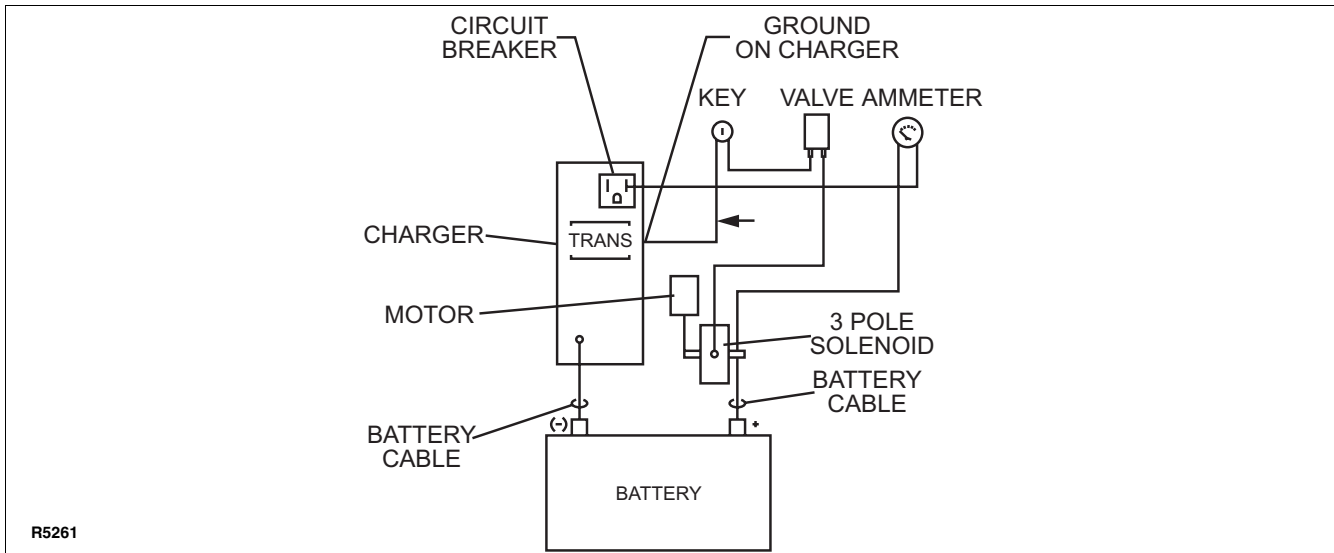
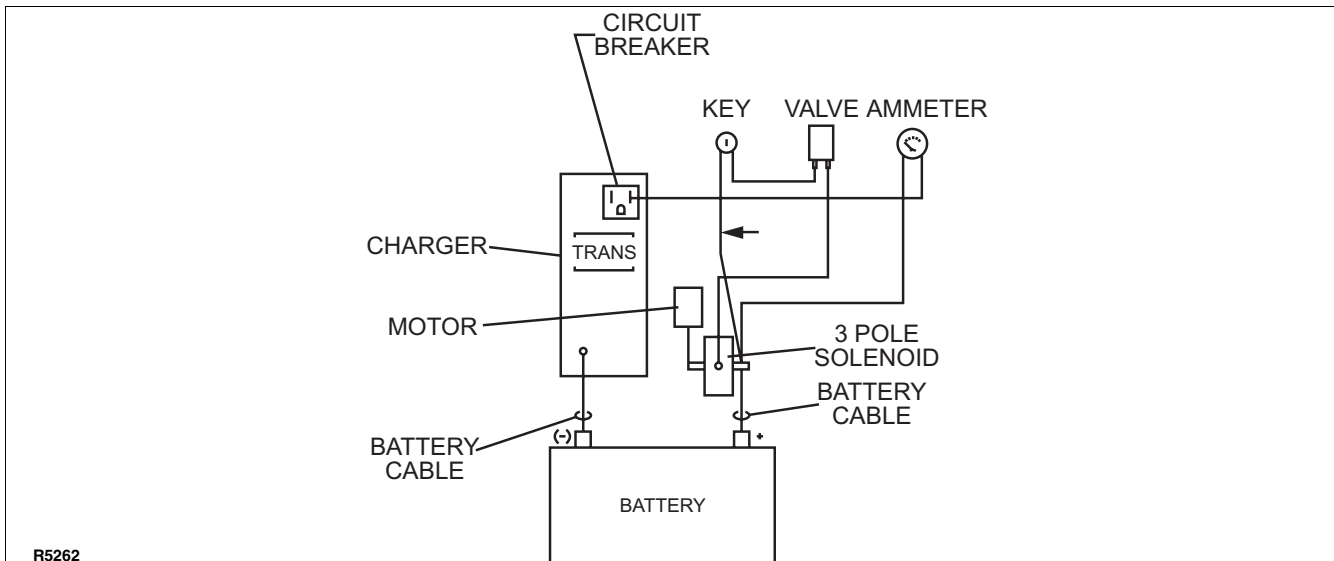

Figure 7-2 Model 2524 Original Wiring
Figure 7-3 Model 2524 Reworked Wiring
If motor 905070 is to be replaced, order the new pump and motor assembly 016938. The electrical wiring is different. Motor 905070 used a lift motor solenoid which was negatively actuated, Figure 7-2. The new pump and motor assembly 016938 uses a lift motor solenoid that is positively actuated, Figure 7-3. Each replacement pump and motor assembly 016938 is supplied with a wire to accommodate the wiring change. Change the wiring as follows:
1. Remove and discard the wire from the key to negative ground. (See Figure 7-2).
2. Install the new coiled wire supplied with the unit (Item 16, Figure 10-17) from key switch to the battery positive solenoid post. (See Figure 7-3).